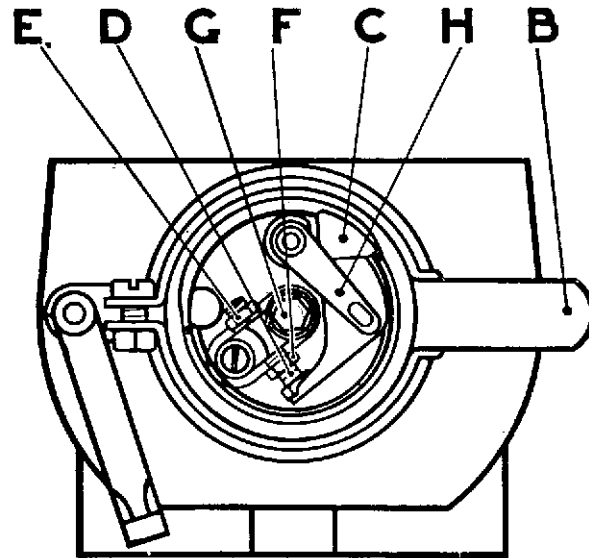

Fig. 8
If adjustment is necessary, it can be easily made without removing the contact breaker. Turn the engine round slowly until the points are seen to be fully opened, then using the magneto spanner, slacken the locking nut (E, Fig. 8), and rotate the fixed contact screw by the
the action of the contact breaker lever ; it is possible that the lever is not answering to its control spring, and is remaining permanently open as it is rotated. If this appears to be so, remove the contact breaker and applying pressure with the finger on the fibre heel (C, Fig. 8), observe whether the points readily open and close. If they are at all sluggish, push aside the locating spring (H, Fig. 8), and prising the rocker arm off its bearing, examine the steel pin on which it works, cleaning this, if required, with fine emery cloth, wiping away all grit, and moistening the pin with oil before replacing the lever. We need hardly warn the reader that no trace of oil should be left anywhere near the contact points after this has been done.
4. With the Magdynos provided with variable ignition, the ignition control or the contact breaker lever (B, Fig. 8) should be moved to the fully retarded position, that is, to the limit of its travel in the forward direction.
5. Remove the contact breaker cover and turn the magneto spindle in its normal direction of rotation until the fibre heel (C) begins to rise on the inclined plane of the cam ring just sufficiently to separate the points (D). This position is the firing point, and the magneto drive should be permanently fixed in this position.